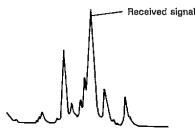

Figure 4. Electric wave distribution observed during signal reception
3) When \blacktriangleleft has been properly set, turn the CAL marker switch of the TS-950 to OFF to prepare for signal reception. Electric wave distributions such as that in Figure 4 can be observed.